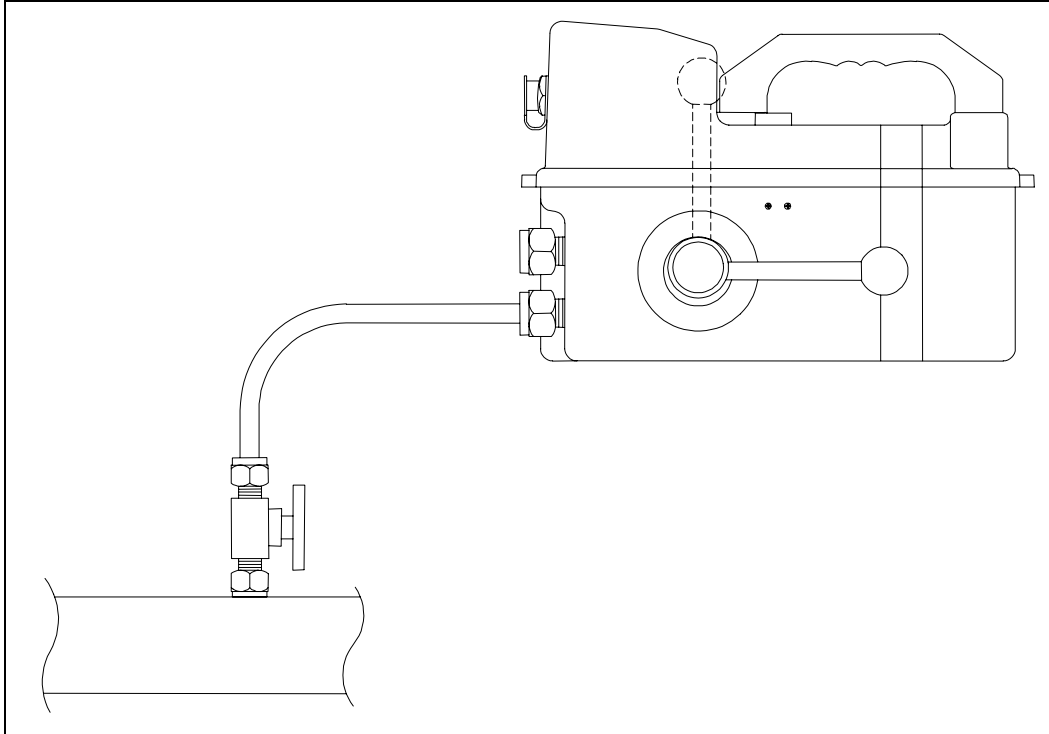

Figure 4
1. Connect the analyzer to the sample source connection using either hard tubing and the appropriate fittings, or the hose and fitting set P/N 63002199 (see Figure 4.) and initiate the flow by opening the sample tap valve.